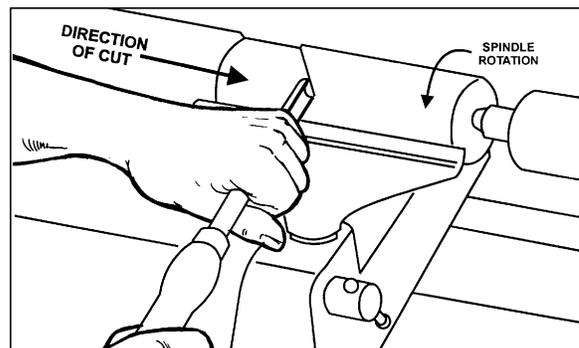

Figure 40
3. Beginning about 2" from the tailstock end of the workpiece, roll the flute (hollowed-out portion) of the tool in the direction of the cut. See Figure 40. Make long sweeping cuts in a continuous motion to rough the piece down to a cylinder.